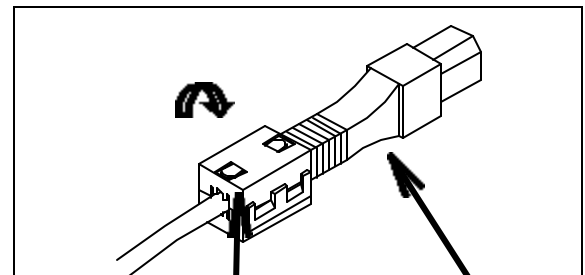

Figure 1
1. Snap the Ferrite Core (included in accessory kit) around your AC Power Cord (make sure that the cord is factory approved). The Ferrite Core needs to be slid against the back part of the female end of the cord. The maximum cord diameter should not exceed 0.375"(9.52mm). (figure 1)